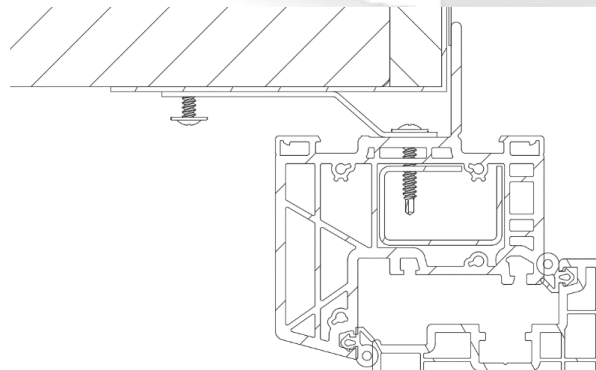

Figure 23: Door with sidelite head fastening detail with strap anchor.
- l) See *figure 23* utilizing fasteners as specified in section 5.1, B.